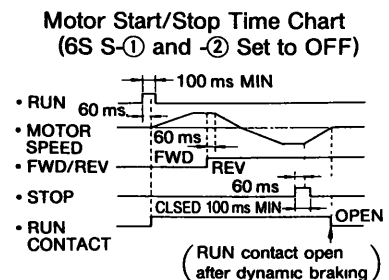

Fig. 16 Run and Stop Time Chart
Fig. 16 shows the run-stop time chart when notches ① and ② of operation mode setting switch 6S are set to OFF.